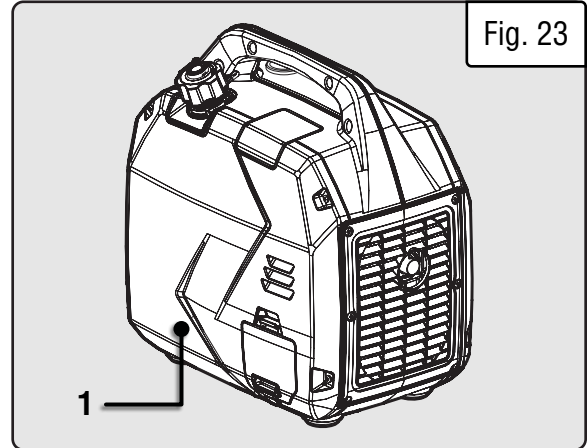

Fig. 23
1. Remove the oil access panel. Unscrew the four Phillips-head screws and remove the side panel (Fig. 23 - 1).
2. Remove the oil access panel. Unscrew the four Phillips-head screws and remove the side panel (Fig. 23 - 1).
2. Unscrew the six Phillips head screws and remove the muffler cover (Fig. 23 - 1).